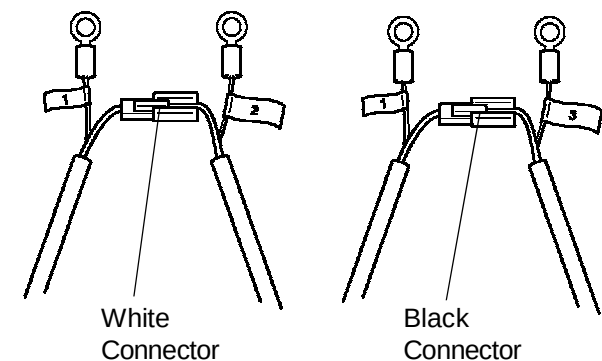

Fig. 12
- 3) Connect the Connectors attached to the Float Switches so that the colors of the Connectors match. See Fig. 12.